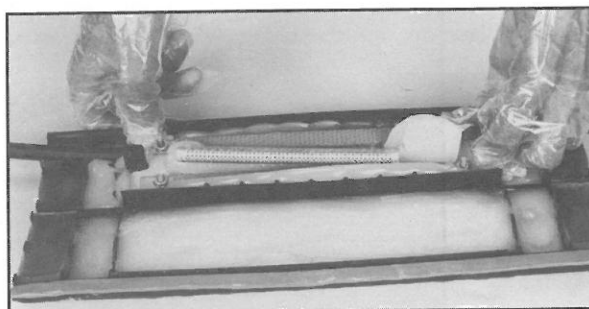

FIGURE 4 - SPLICE MODULE & HARDWARE EMBEDDED IN POLY-BEE SEALANT
3.07 Push downward on bridges to force splice and cables into POLY-BEE™ Sealant. (Figure 4)